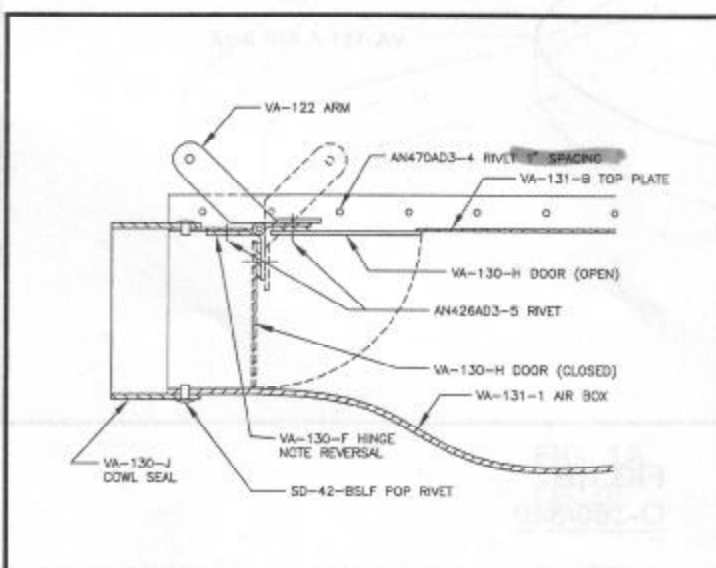

FIG. 4
- You only need enough flange height around the rest of the VA-130-A or VA-131-A to be able to install the rivets at 1" spacing (Fig 4). Drill two small (1/8") holes through the lowest points of the air box (one inside and one outside of the filter) to allow fuel and water to drain.
- ❑ Being careful to have the flat side of the hinge (VA-130-F) down, drill the hinge and top plate. Reverse the other side of the hinge (flat side up) (Fig. 4) and install the hinge pin. Cleco the hinge to the top plate.